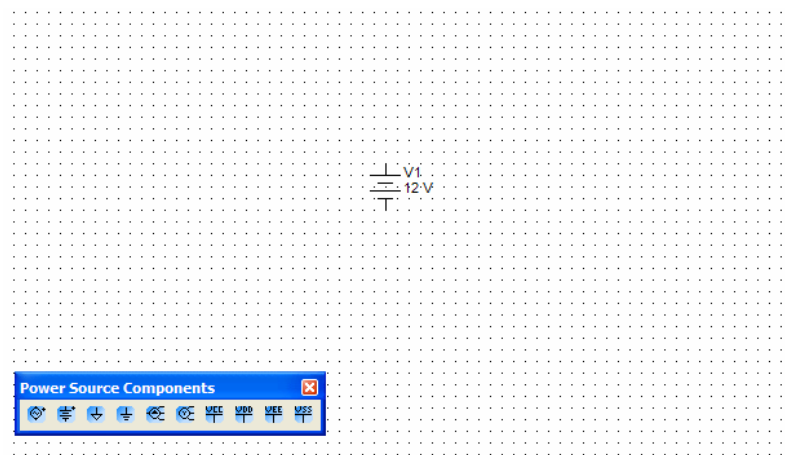

Figure 5. A DC power source in MultiSim
3. Left-Click on the DC Power Source icon  and drag a battery onto the circuit workspace. Figure 5 shows the result.